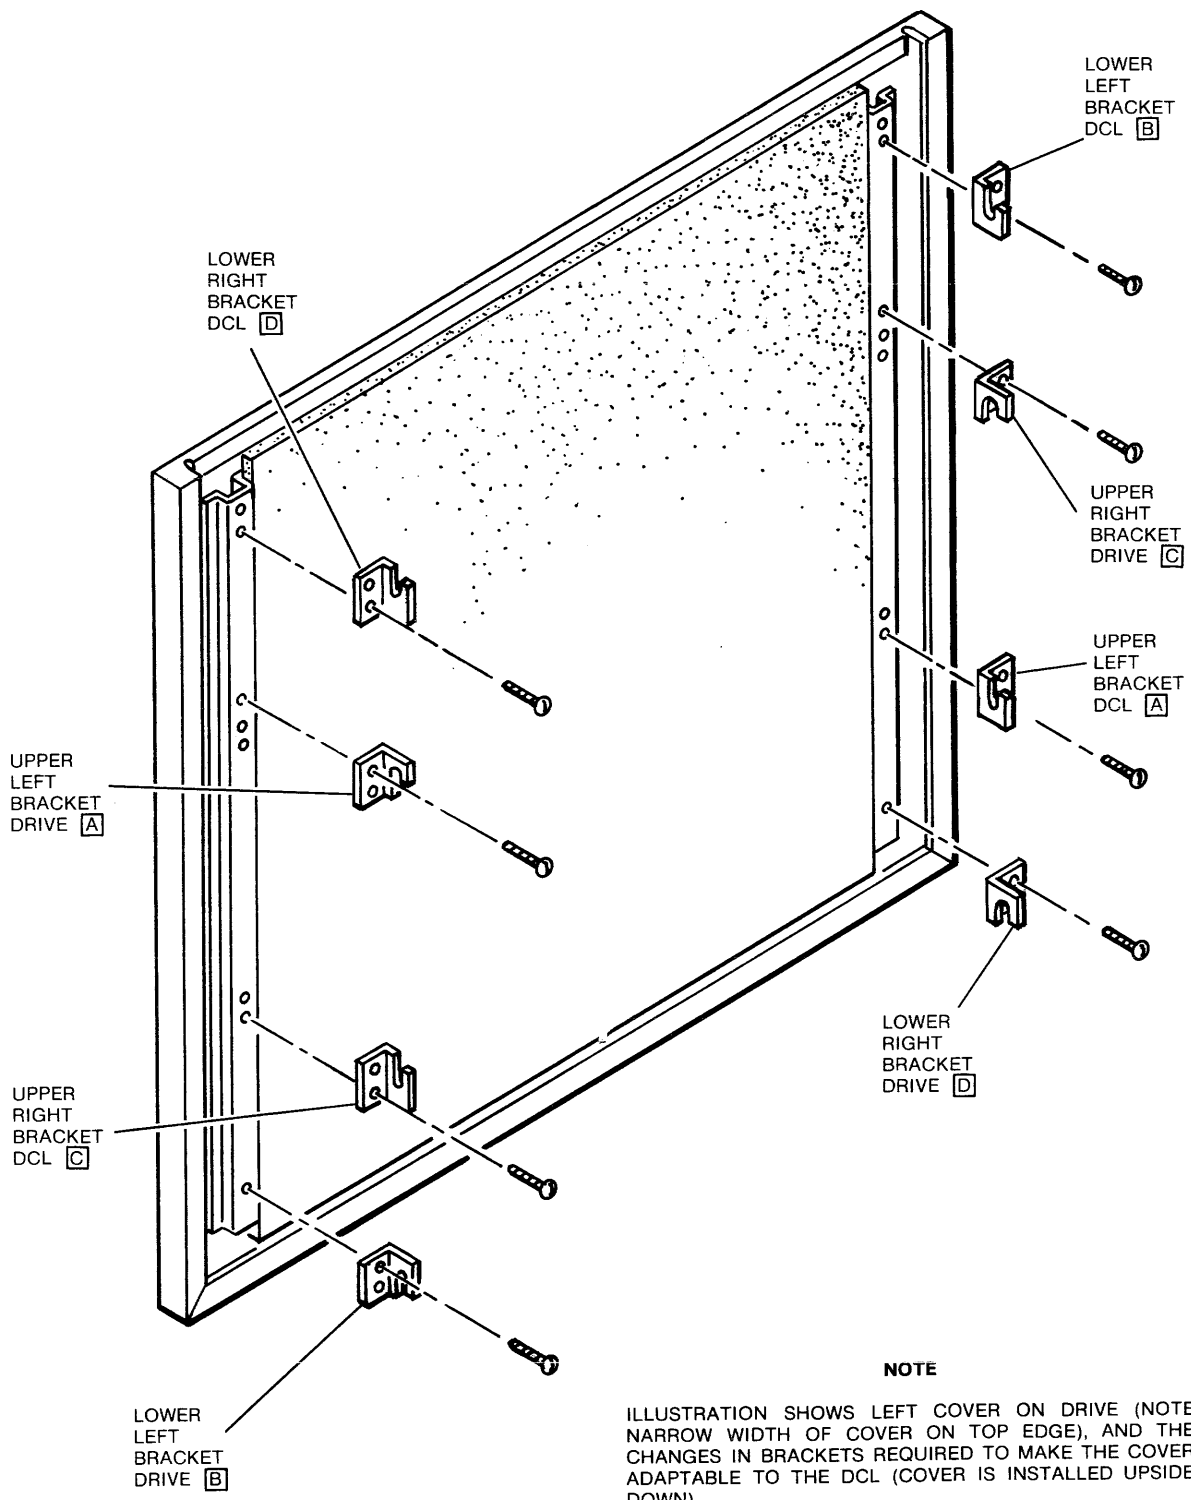

FIGURE 2-9. CONVERTING DRIVE COVER TO DCL COVER
- a. Connection of cables between drive and DCL; bolting the two units together; and installing a cover (previously on a drive) onto the DCL as shown in Figure 2-9.
2. For the one DCL at the left, and the one drive at the right, install a side cover (see Figure 2-9) and a kickplate (using two #8 screws each).